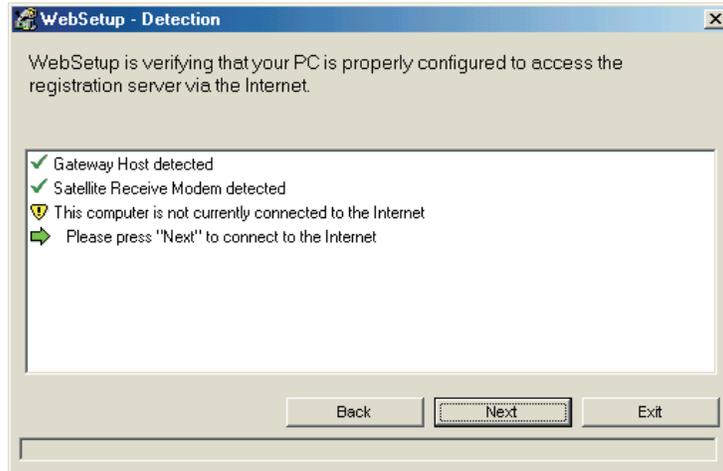

Figure 46: Detecting the Gateway Host and remote terminal
4. Click **Next** on the Detection screen after the Gateway Host and remote terminal are detected. See Figure 46.